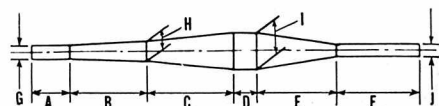

Fig. BST 4-4—Expansion chambers can be constructed to the specifications listed in text. Specifications are different depending on type of racing.
**EXPANSION CHAMBERS.** Refer to Fig. BST 4-4 and the following specifications for constructing expansion chambers suggested by the manufacturer.